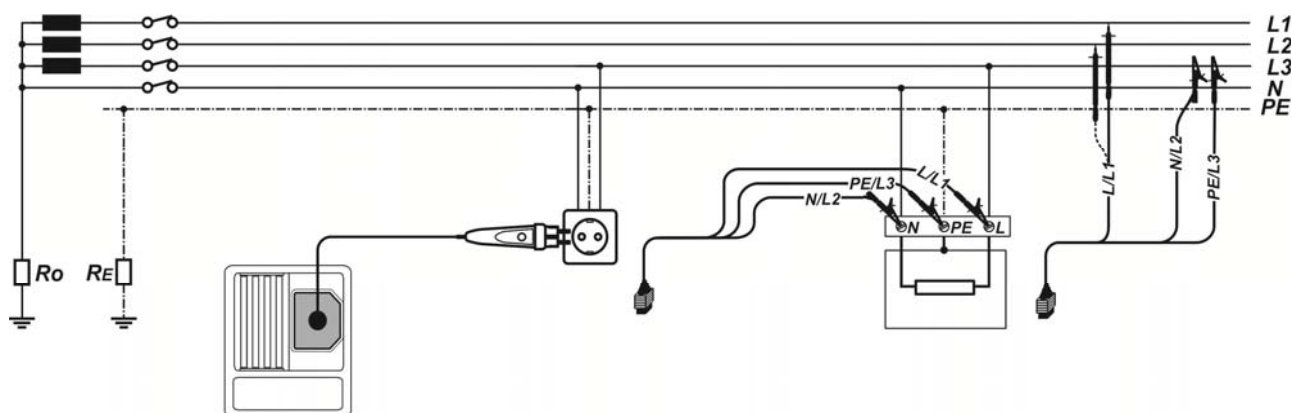

Figure 5.28: Phase-neutral or phase-phase line impedance measurement – connection of plug commander and 3-wire test lead
- ❑ **Connect** test leads to the item to be tested (see Figure 5.28).